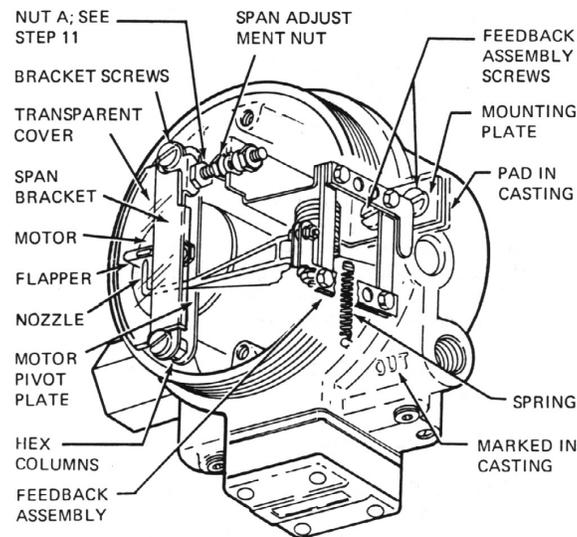

Figure 12.
2. Remove two screws holding span bracket. See Figure 12.
6. Remove hex columns (use 5/16-inch wrench), and lift off motor pivot plate. See Figure 12.
After assembly, loosen nut A (identified in Figure 12), tap adjacent plate and then retighten nut A.